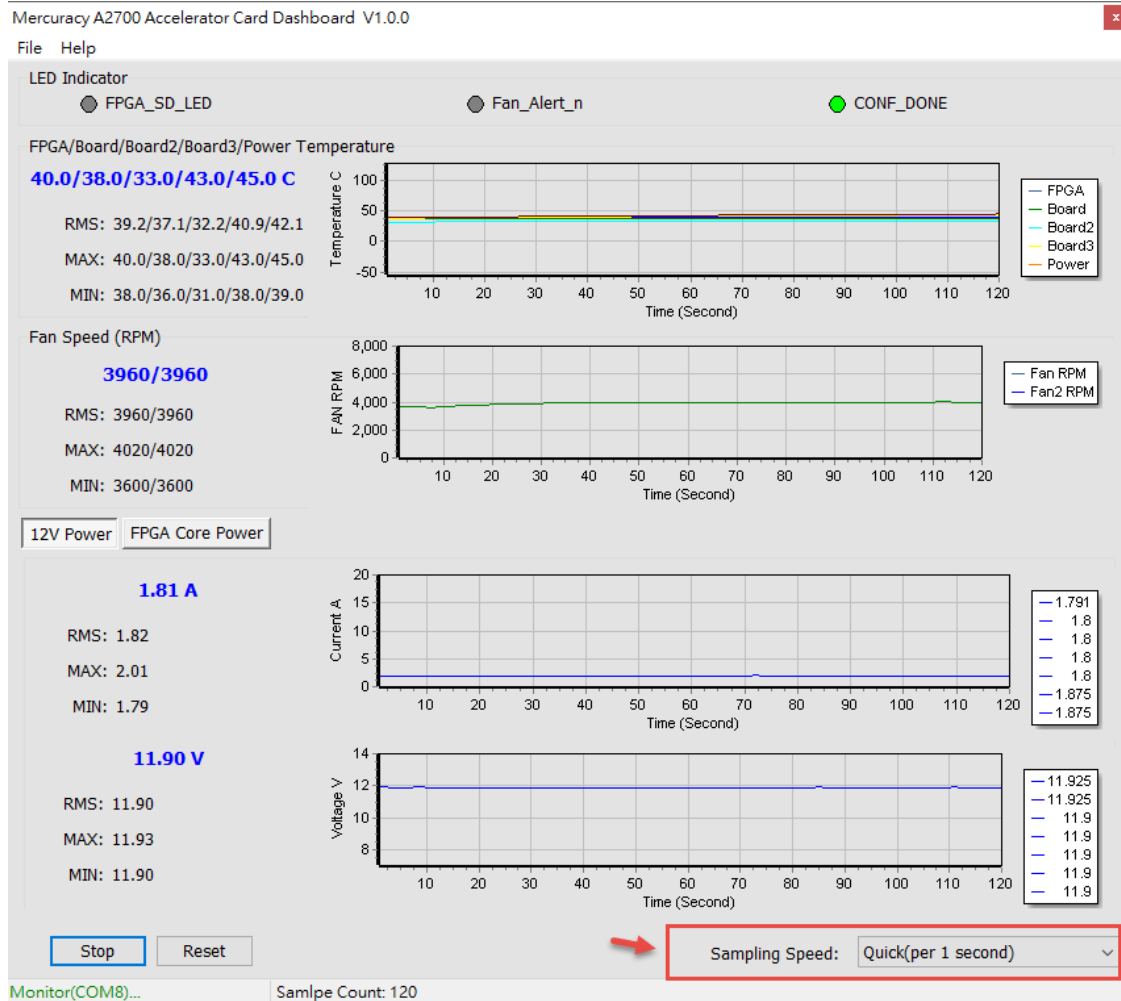
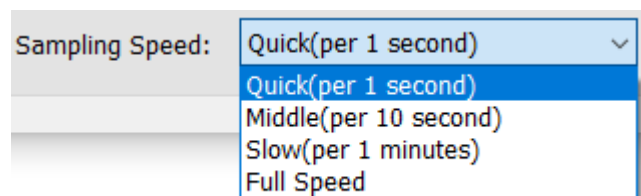

Figure 4-14 Sampling Speed section
Figure 4-15 Options of Sampling Speed
- **Sampling Speed:** It can change interval time that the Dashboard GUI sample the board status. Users can adjust it to 1s/10s/1min/Full Speed (0.1s) to sample the board status, as shown in **Figure 4-14** and **Figure 4-15**.